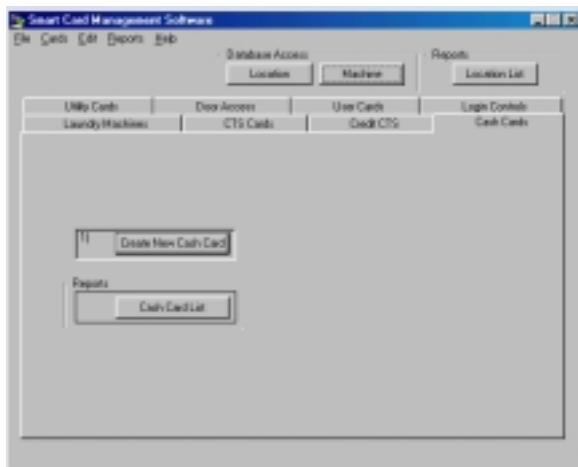

Figure 2.18 Cash Cards Manager
2.2.6.8. Cash Cards Manager (Figure 2.18)